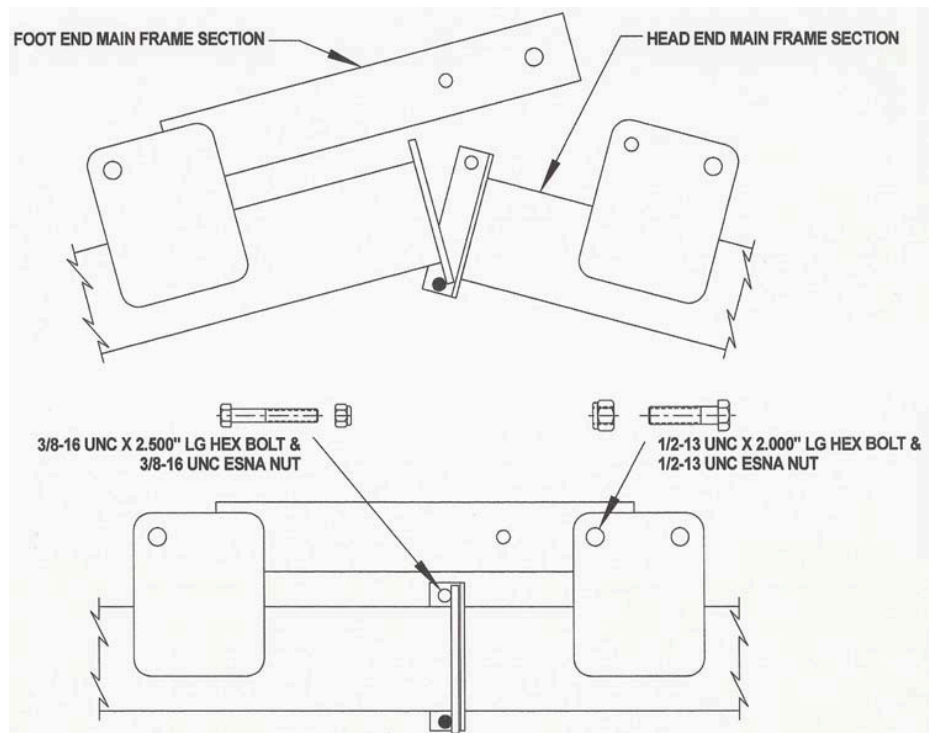

Figure 1
7. Loosen and remove the  $\frac{3}{8}$ " and  $\frac{1}{2}$ " bolts in both sides of the bed frame (Figure 1). Raise the coupling end of the head end and foot end. Separate the two halves as indicated.
10. Raise the coupling end of the head end and foot end (Figure 1). Couple the two halves together as indicated. Install the  $\frac{3}{8}$ " and  $\frac{1}{2}$ " bolts in both sides of the bed frame. Tighten nuts and bolts with wrenches.